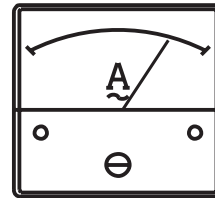

Figure 62. Ammeter (Load)
13. Observe the generator's ammeter (Figure 62) and verify it reads the anticipated amount of current with respect to the load. The ammeter will only display a current reading if a load is in use.